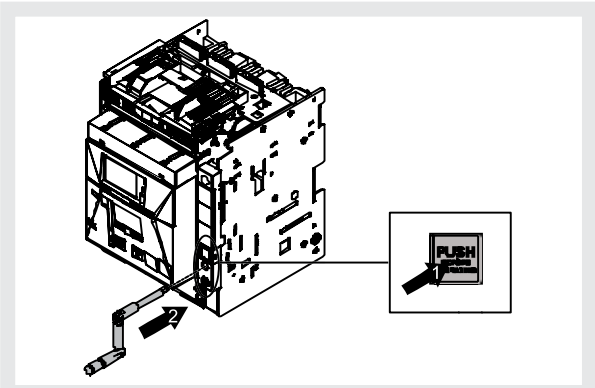

Figure 44
5. Press the lock pushbutton and fit the handle into the moving part. In this phase, the moving part will still be in the **DISCONNECT** position. See Figure 44.